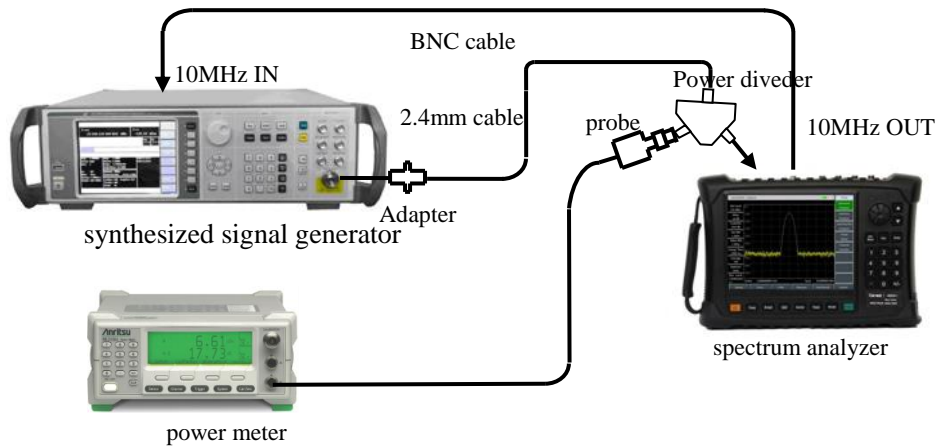

Fig. 12-15 Setting for Reference Level Uncertainty and Scale Fidelity Test
- 2) Connect the test equipment as shown in Fig. 12-15. The spectrum analyzer will provide the frequency reference for 1464C synthesized signal generator, connect the spectrum analyzer and power meter with signal generator by power divider.
- 2) Connect the test equipment as shown in Fig. 12-15. The spectrum analyzer will provide the frequency reference for 1464C synthesized signal generator; connect the spectrum analyzer and power meter with signal generator by power divider.